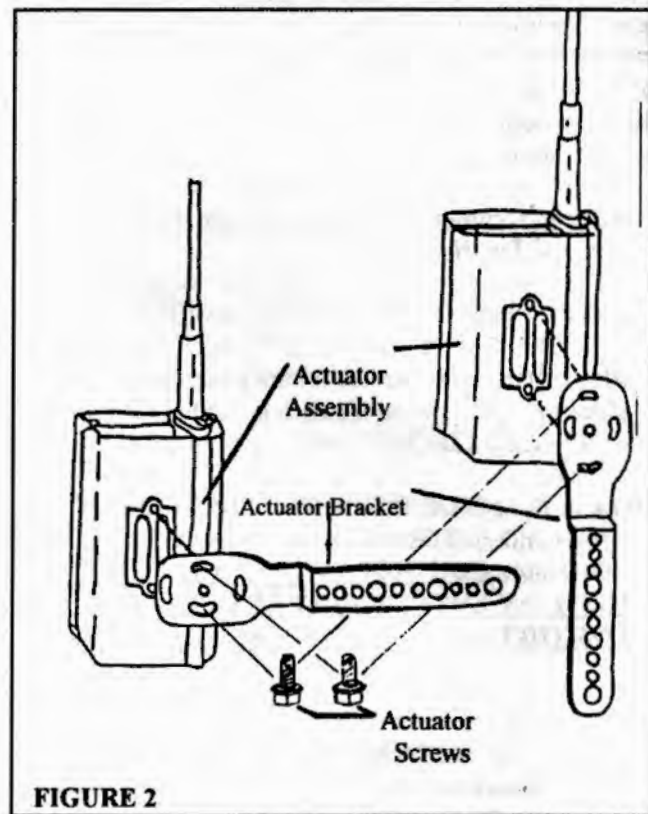

FIGURE 2
2. Install the **Extension Bracket** on the back of the **Actuator Assembly** with the two (2) Bolts provided. (Figure 2)